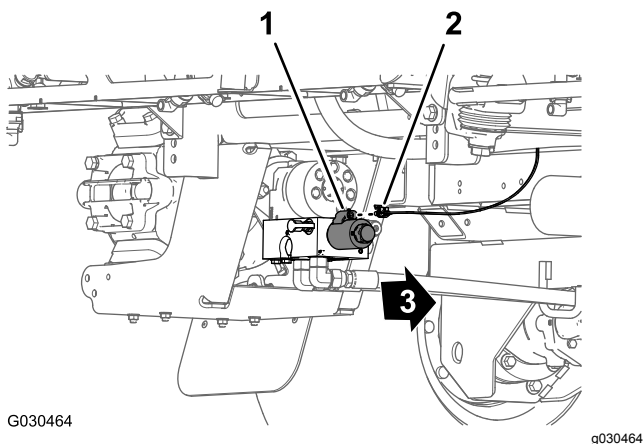

Figure 27
6. At the back of the machine—inboard of the sprayer pump, disconnect the 2-socket connector of the rear, main harness from the 2-pin connector of the relay for the pump (Figure 27).